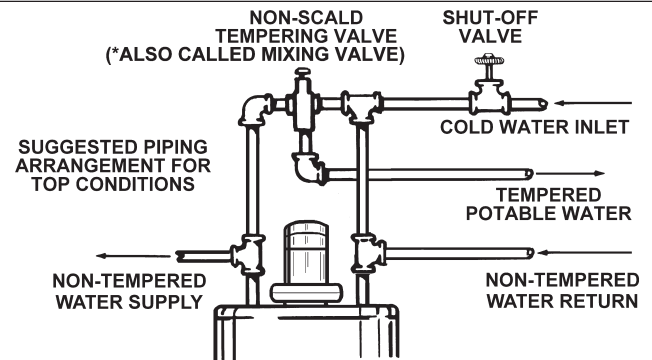

FIGURE 7
4. When the system requires water for space heating at temperatures higher than required for domestic water purposes, a \*mixing valve must be installed, see Figure 7 for suggested piping arrangement.